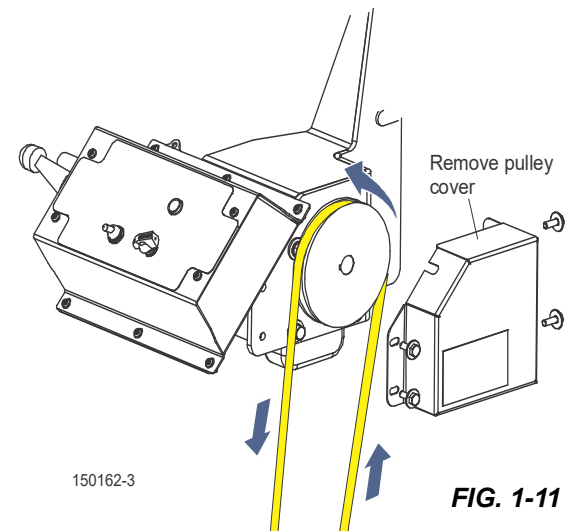

FIG. 1-11
4. Continue feed rope installation as outlined in your sawmill operator's manual. See Fig. 1-11.